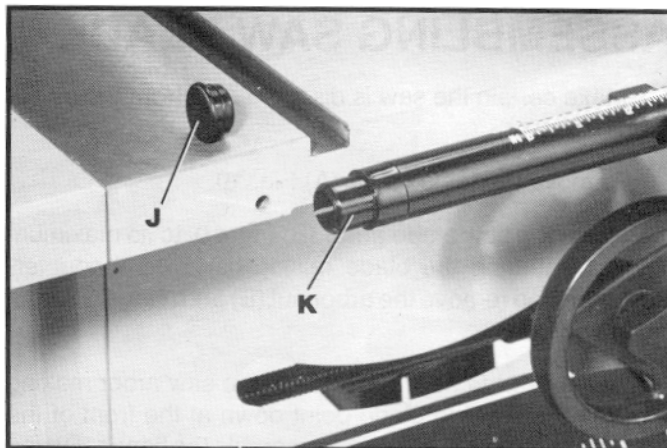

Fig. 13
6. Remove end cap (J) Fig. 13, from end of guide rail and insert extension plug (K) in guide rail, as shown.